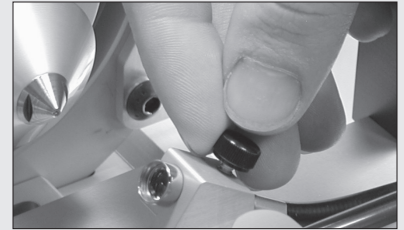

Figure 4.7 When locking the fiber optic bundle in place, do not overtighten thumb screw
4. With the fiber optic bundle securely placed within the coupler, lock the bundle in position using the thumb screw. Do not over tighten. (Figure 4.7)